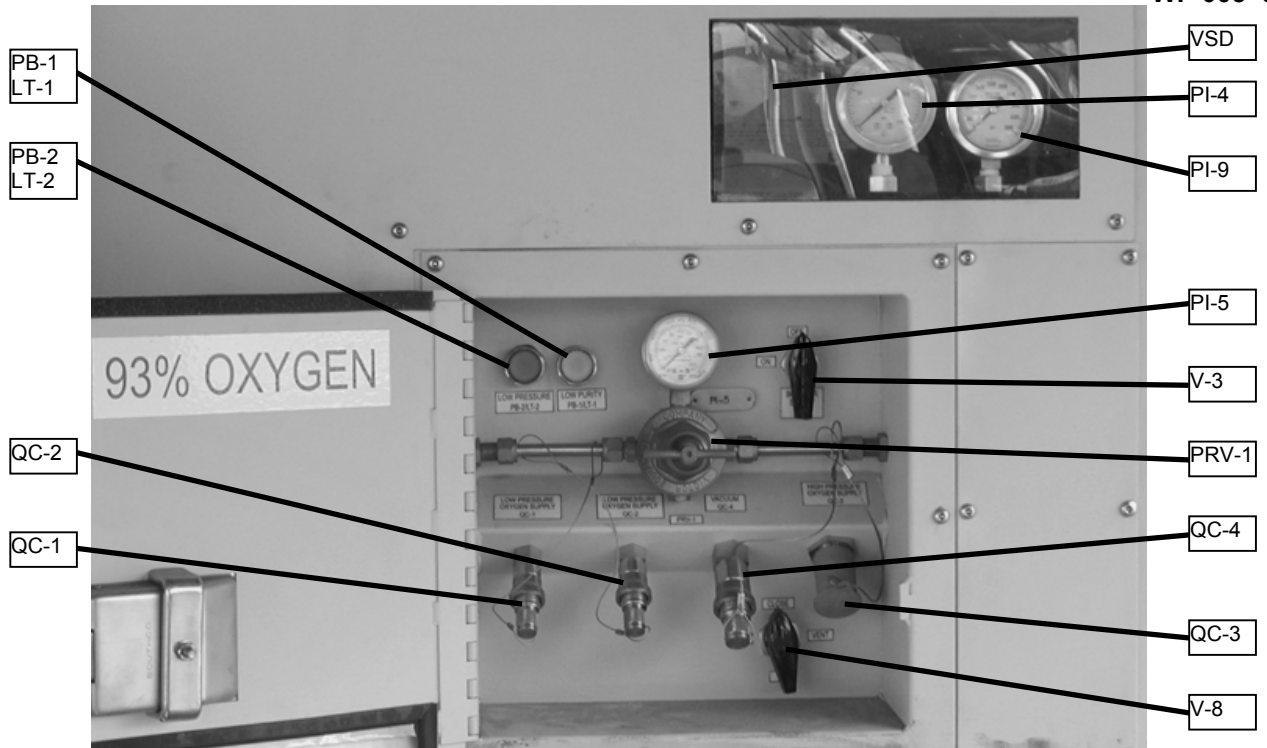

Figure 3. Product Distribution Box.
2. Set the booster compressor supply valve (V-3) to 'ON'. If the booster compressor will not be used set the valve to 'OFF'. Refer to Figure 3.
- When the purity reaches 90% the oxygen off-spec solenoid valve (SV-2) will energize and stop venting the low purity oxygen to atmosphere (see Figure 6). At the same time, the proper purity oxygen will be delivered to the product distribution box (see Figure 3).
- Set the high pressure quick connect fitting vent valve (V-8) to 'VENT'. Refer to Figure 3.
The EDOCS-120 is an interface and backup device for supplying oxygen to the hospital ward or surgical suite. Two low-pressure oxygen outputs (QC-1, QC-2) are provided for delivery of oxygen to the hospital (see Figure 3). Set the oxygen delivery pressure to 85 psig by adjusting the pressure regulator (PRV-1). Any time the oxygen pressure
During operation, the adsorber pressure gauge (PI-8) should indicate 8-9 psig during the pressure cycle and 15-16 inches Hg during the vacuum cycle (see Figure 5). The scroll compressor outlet pressure gauge (PI-2) should indicate 95-108 psig (see Figure 3). The buffer storage tank pressure gauge (PI-3) should indicate 3.5 to 7.5 psig (see Figure 22).
Unless otherwise indicated, refer to Figure 3.